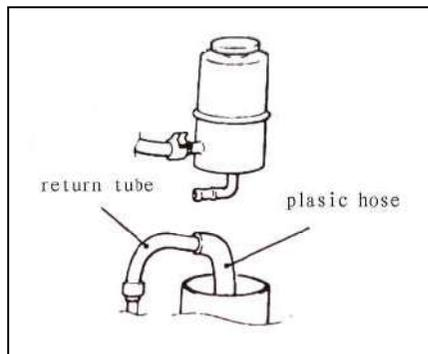

Fig 17-7
- (1) Park the vehicle on a flat, level surface, start the engine, and then turn the steering wheel several times to raise the temperature of the fluid to approximately 50-60°C.
- (2) With the engine running, turn the wheel all the way to the left and right several times.
- (3) Check the fluid in the oil reservoir for foaming or milkiness.
- (4) Check the difference of the fluid level when the engine is stopped, and while it is running. If the change of the fluid level is 5mm or more, air bleeding should be done.
8、 POWER STEERING FLUID REPLACEMENT(See fig 17-7)